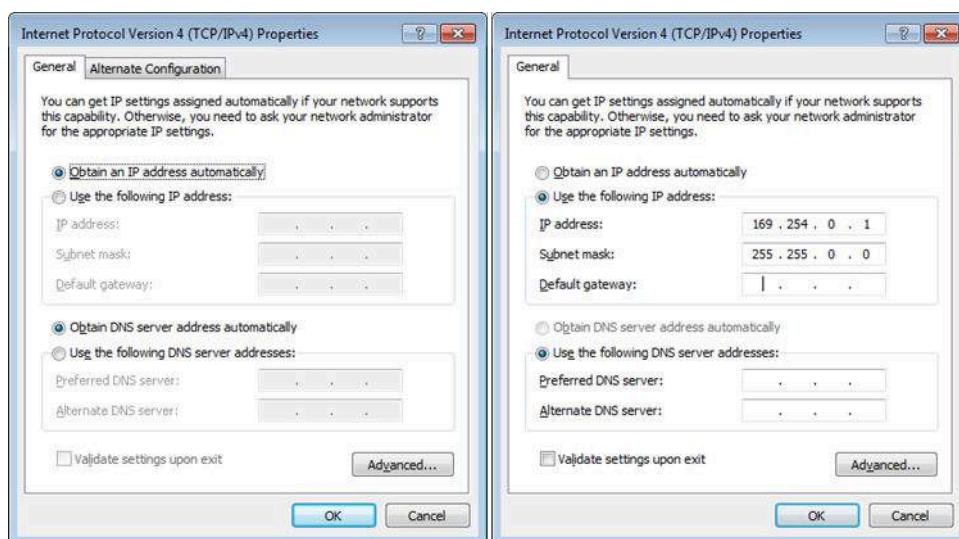

Figure 78: Internet Protocol Version 4 (TCP/IPv4) properties
4. By default the interface is configured to obtain an IP address automatically by a DHCP server, shown in Figure 78, usually provided by routers or dedicated servers. A fixed IP address and Subnet mask can be entered like shown in Figure 78 right, after choosing *Use the following IP address*.